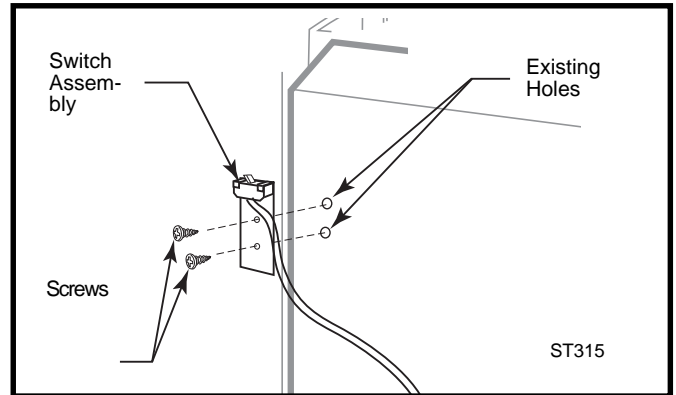

Fig. 17 Attach switch assembly to rear shroud.
1. Attach switch assembly to left rear side of stove shroud using two screws and existing holes in shroud. (Fig. 17)